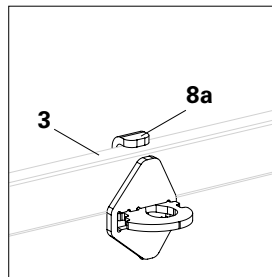

Fig. A2.12a
1. Place the Suspension Point UHA (**8a**) of the Ledger-to-Ledger Coupler UHA (**8**) on the Horizontal Ledger (**3**) and hold it with one hand. (Fig. A2.12a)